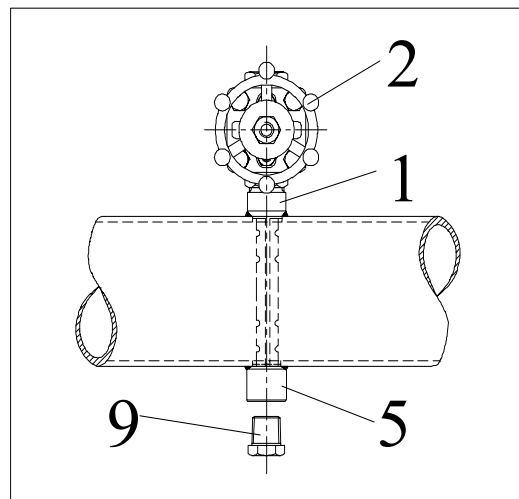

Fig. 12: Installation hardware and sensor end support
The design of the ITABAR Sensor of the type FTMD-26 is almost identical to the type FTMD-25. The only difference is the sensor end support (with sealing plug, see Fig. 12) which permits higher stream velocities in the pipe.
2. Tack the weld socket {1} onto the pipe leaving approx. 2 mm clearance. Align the socket (e.g. with a bolt or pin) so that it is exactly perpendicular to the pipe axis (Fig. 12).
6. Remove the sealing plug {9} (if present) from the sensor end support. Tack the sensor end support onto the pipe leaving approximately 2 mm clearance. (Fig. 12)
9. For sensor end supports with sealing plug only: Seal the thread of the sealing plug {9} with a suitable sealing compound (e.g. PTFE tape). Screw the sealing plug into the sensor end support and tighten it firmly (Fig. 12).